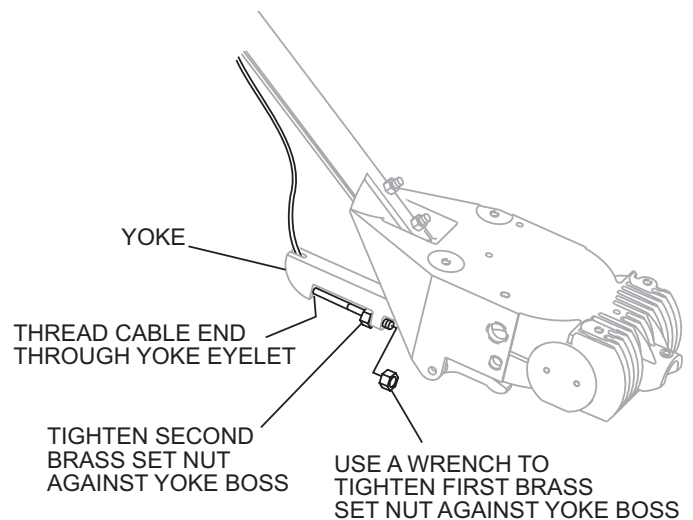

Figure 11. Cable Yoke Attachment
4. Insert the cable end through the yoke eyelet (Figure 11) Tighten the first brass set nut by hand to remove all the slack from the cable.